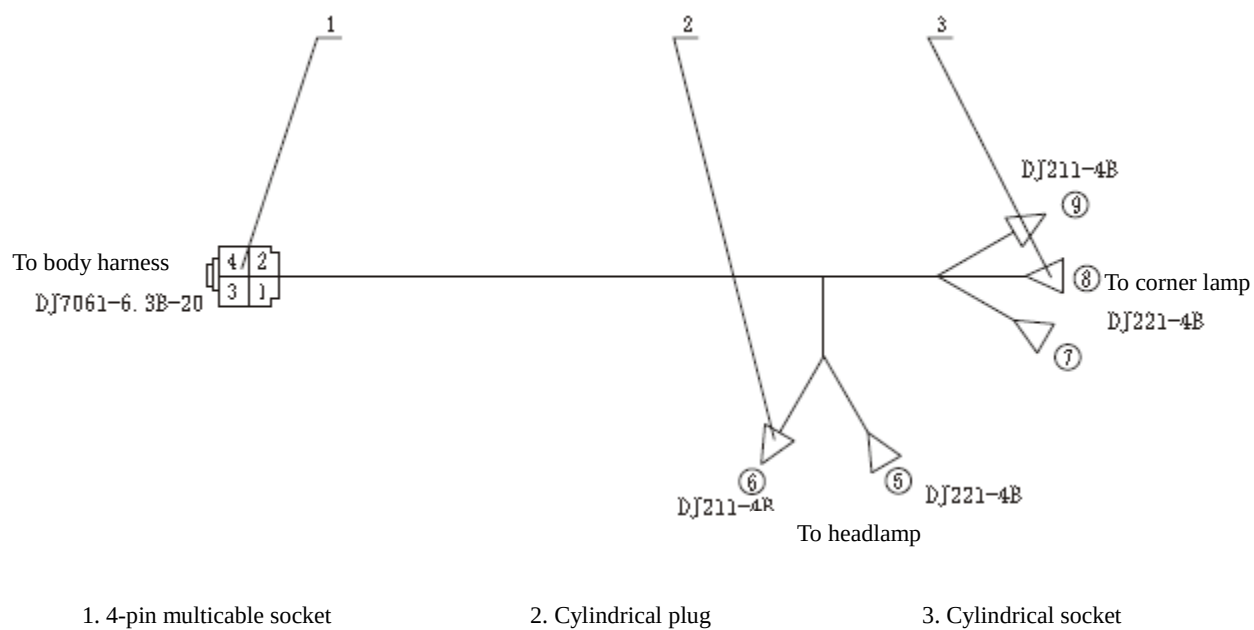

Fig. 4-3 Overhead Guard Harness (Right)
2. Overhead guard harness (right) Fig. 4-3